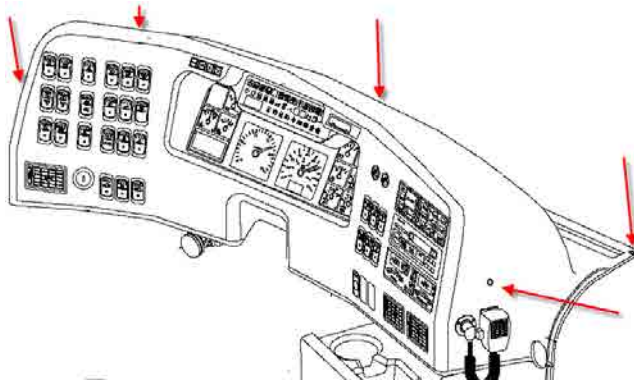

Fig.2 Cover retaining screws position
1. To gain access to the radio and sound selector (VSS) connections, remove the dashboard cover by unscrewing the five (5) M4 – 0.7x 20 screws that secure it to the dashboard (Fig.2).